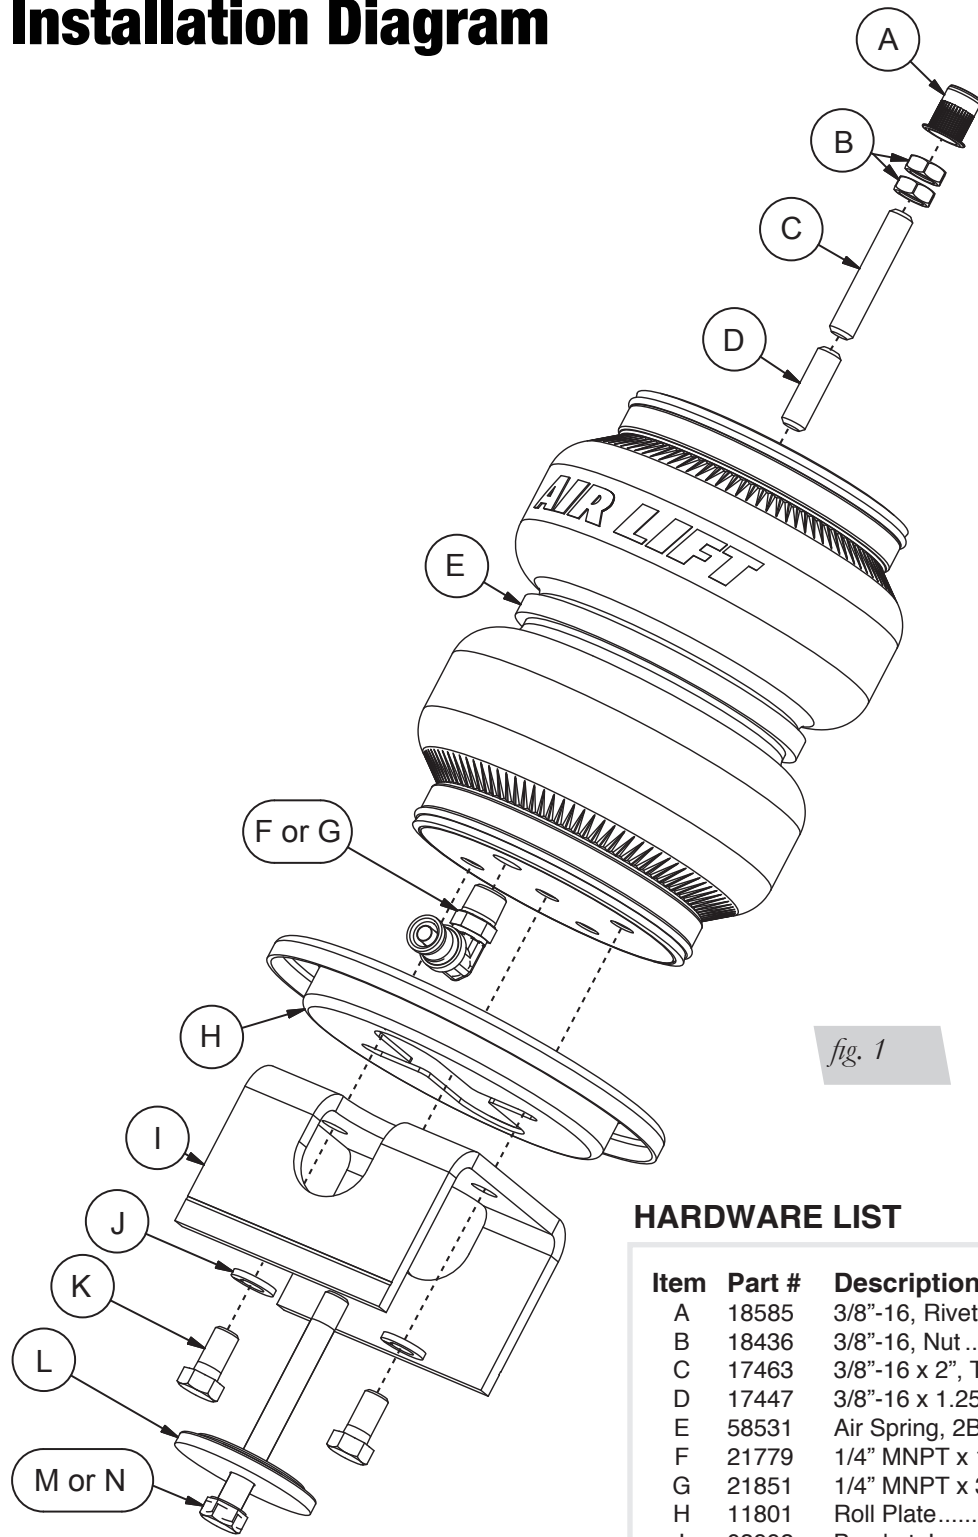
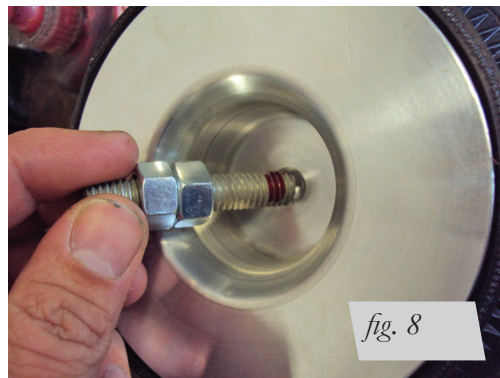

fig. 1
fig. 8
3. Two lengths of threaded studs are included with the kit (C or D, Fig. 1). The shorter stud is for vehicles that retain the coil spring perch bump. The longer threaded stud is for vehicles without the spring perch bump. Apply thread-locking compound to the threads of the upper end cap and thread in the appropriate stud. Take the supplied nuts and thread both onto one stud (Figs. 8 and 9). Using the nuts jammed together, tighten the stud into the end cap until it bottoms (Fig. 10). Remove both nuts (Fig. 11).
*If the lower bracket has been cut, the shorter length bolt should be used to secure the assembly to the lower transverse link with the centering washer and lock washer. Uncut brackets use the longer bolt (C or D, Fig. 1) (Fig. 25).*